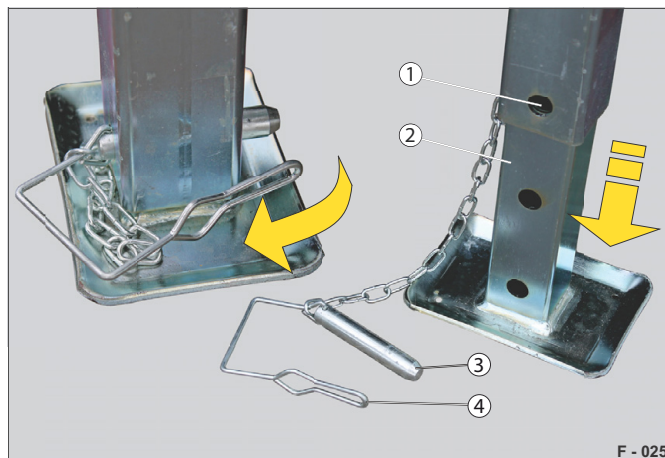

Fig. 23 Telescopic crank supports, height-adjustable
- Press the bracket lock (Fig. 23 /4) out of the plug pin (Fig. 23 /3).
- Adjust the adjustable support (Fig. 23 /2) downwards so that it can be locked in place in a drill hole (Fig. 23 /1). If necessary, crank up the support legs slightly.